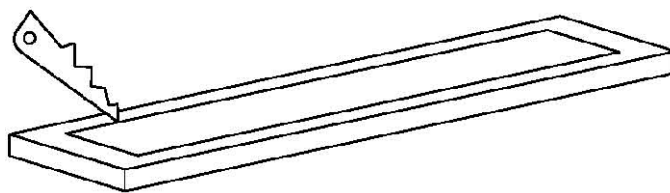

Figure 2
2. According to the model of the lighting fixture, grooves should be made on the windowsill or floor, with the corresponding dimensions as follows, and the groove shape is shown in Figure 2.